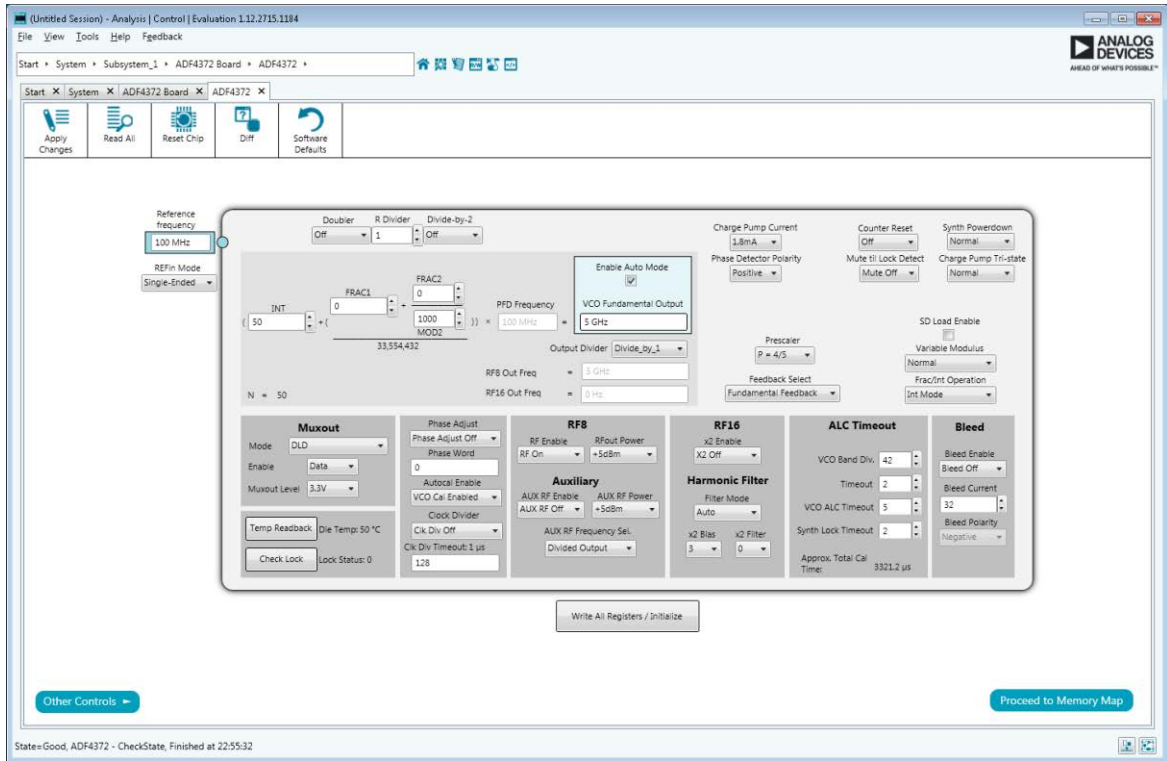
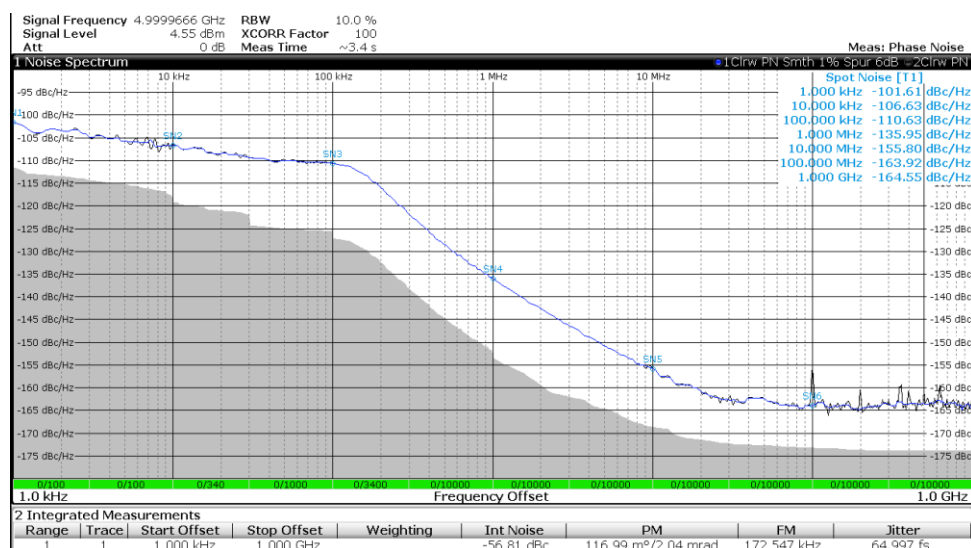

Figure 7. Software Front Panel Display, Main Controls
Figure 8. Single Sideband Phase Noise
3. Double click the **ADF4372** icon that appears on the **ADF4372 Board** tab to open the main control window shown in Figure 7.
The main controls are available in the high level register map shown in Figure 7. To modify registers, perform the following steps:
Run the software and set the **VCO Fundamental Output** box to 5 GHz (see Figure 7). Measure the output spectrum and single sideband phase noise on a spectrum analyzer. Figure 8 shows a phase noise plot of the SMA RF8P pin equal to 5 GHz.